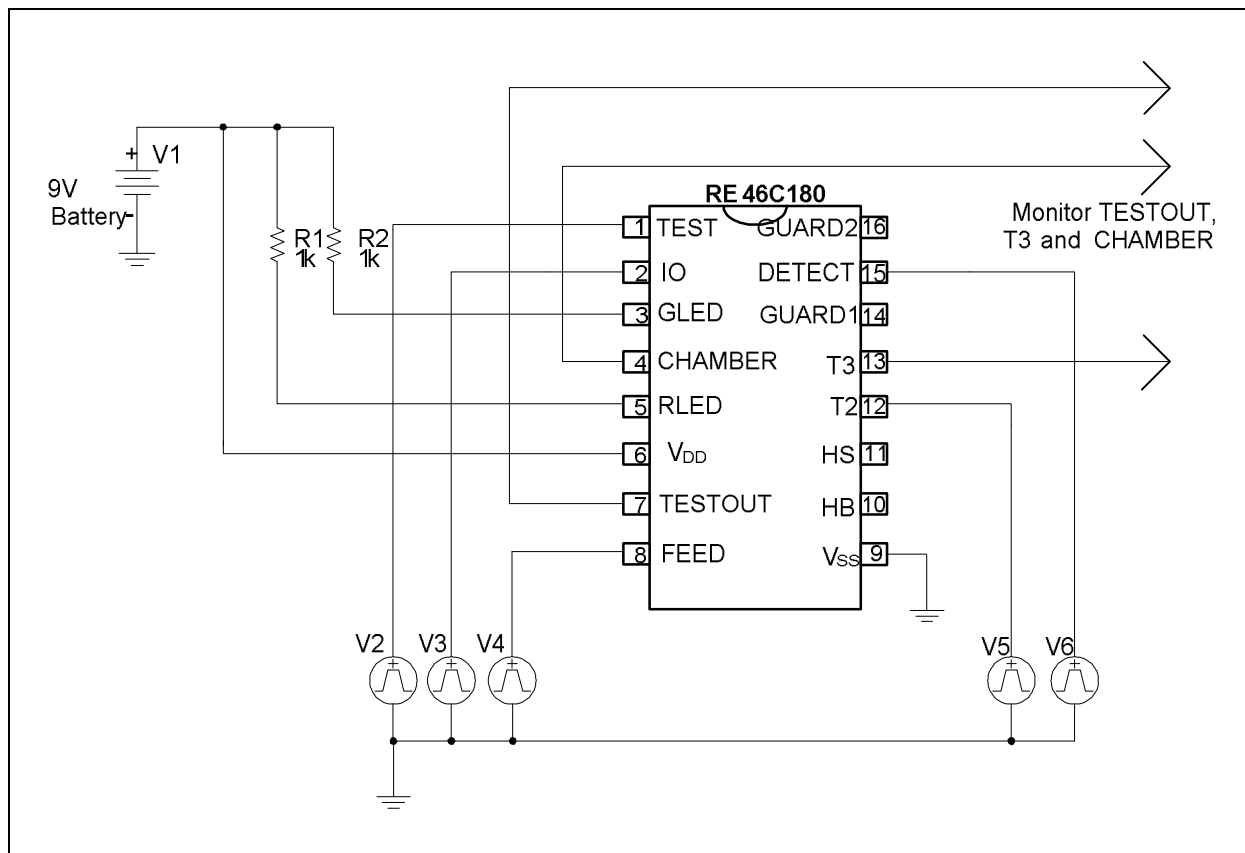

FIGURE 4-1: Nominal Application Circuit for Programming.
1. Power-up with the bias condition shown in Figure 4-1. At power-up:
1. Power-up with the bias condition shown in Figure 4-1 to enter M0. At power-up: